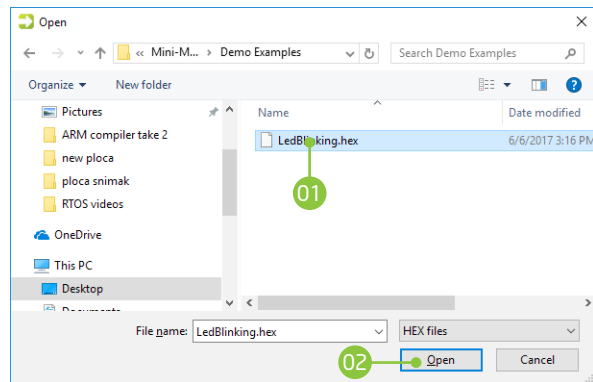

Figure 1-3: Selecting HEX
- 01 Click the **"Browse for HEX"** button and from a pop-up window (**Figure 1-3**) choose the .HEX file which will be uploaded to MCU memory.